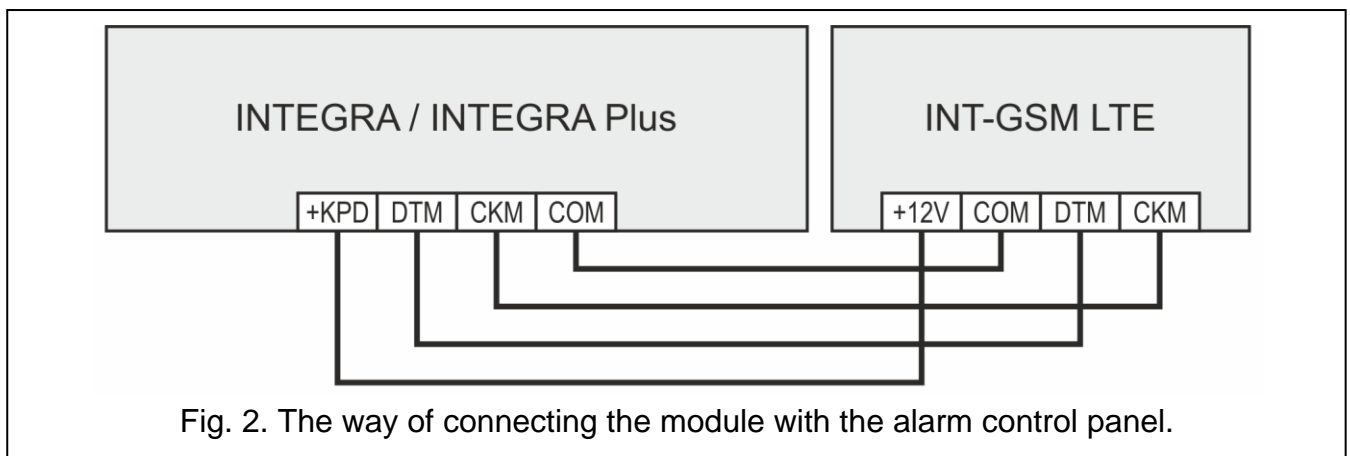

Fig. 2. The way of connecting the module with the alarm control panel.
1. Connect the +12V, COM, DTM and CKM module terminals to the control panel terminals (Fig. 2). To connect the +12V and COM terminals, use flexible conductors with a cross-section of 0.5-0.75 mm², or rigid conductors with a cross-section of 1-2.5 mm². If you use the "twisted pair" type of cable to connect the DTM and CKM terminals, keep in mind that the CKM (clock) and DTM (data) signals must not be transmitted using one pair of twisted wires. The wires must be run in one cable.